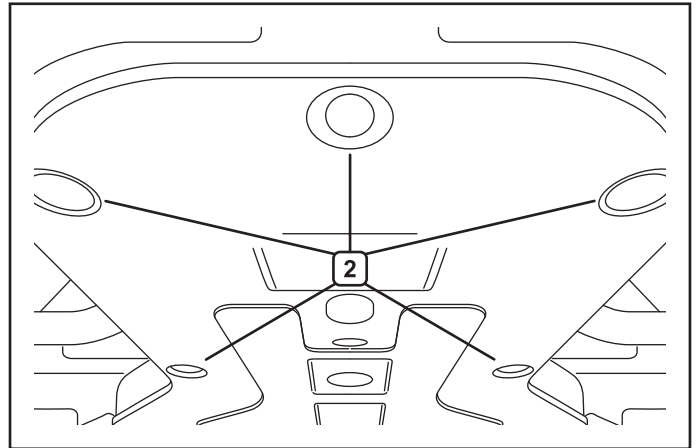

Figure 2.
2. Remove the skid plate by removing five bolts (2) as shown in figure 2.